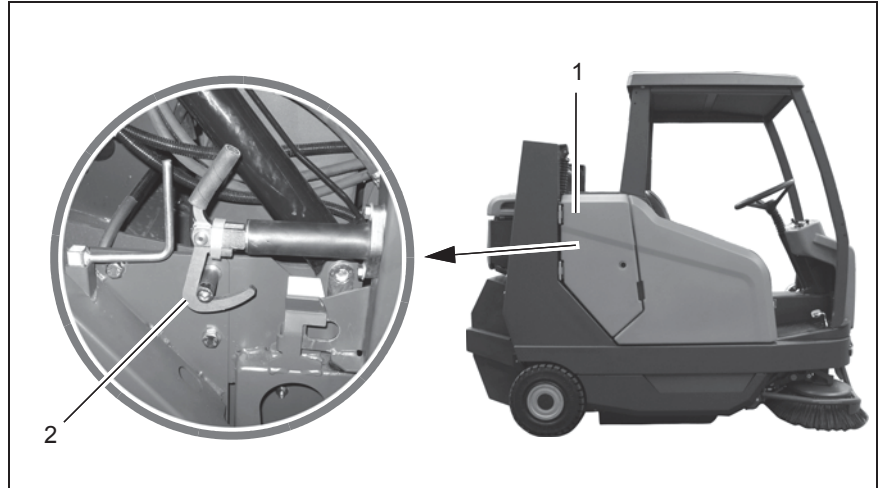

Fig.23
2. Open the side panel (Fig. 23/1) using a square wrench.
3. Unlock the lock (Fig. 23/2). Pivot the seat console up.
Check the engine oil level with the oil dipstick (Fig. 23/1) every day. Refill engine oil as necessary or when the engine oil pressure control lamp lights up.
4. Remove the cap (Fig. 23/2).
Change the engine oil and oil filter (Fig. 23/5) for the first time after 50 operating hours. Subsequently, change the engine oil every 125 operating hours and the oil filter every 250 operating hours.
2. Place a suitable collecting vessel under the drain plug (Fig. 23/3) of the oilpan (Fig. 23/4).
4. Disassemble the oil filter (Fig. 23/5) and install a new oil filter with a new sealing ring (tighten hand-tight).
Change the fuel filters (Fig. 23/6) and (Fig. 23/7) every 250 operating hours. The fuel filter (Fig. 23/6) is fixed by means of hose clamps and must be changed as a unit.
The fuel filter (Fig. 23/7) is only installed for diesel engines!
1. Close the fuel filter valve (Fig. 23/8).
3. Loosen the vent plugs (Fig. 23/9) on the fuel filter and tighten again when no further air bubbles escape.
4. Loosen the vent plug on the injection pump (Fig. 23/10) and tighten again when no further air bubbles escape.